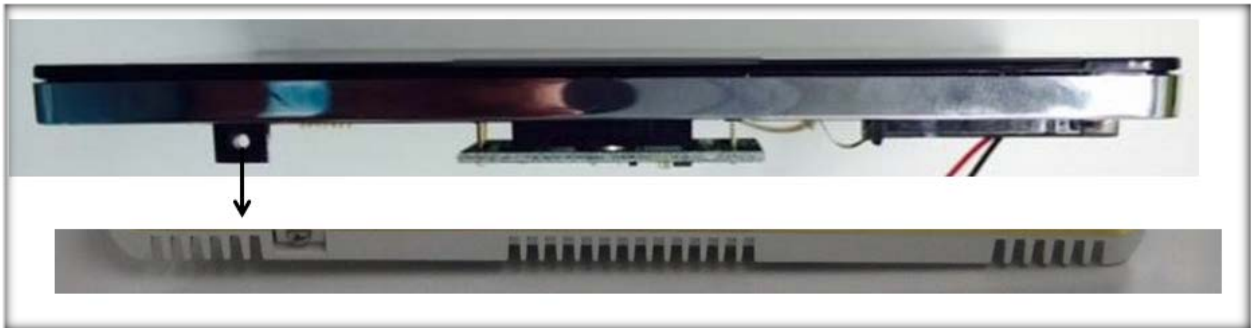

Figure 29: Replace Cover
Step 11 Place the cover over the backplate, about ¼ inch to the left as shown in Figure 29.